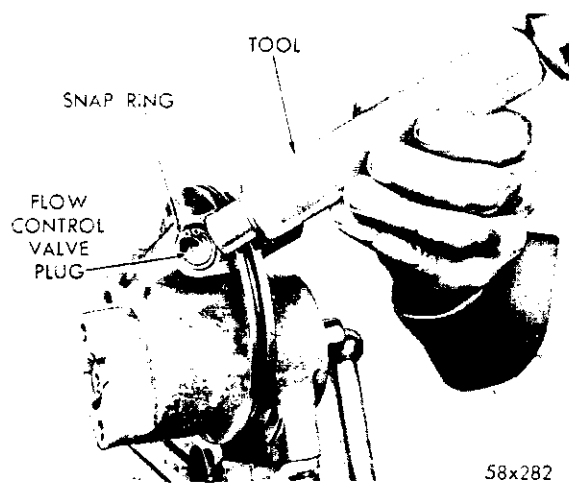

Fig. 61—Installing the Flow Control Valve Plug
(2) Drive a new plug into the base with Tool C-3233 only far enough to place the snap ring in the bore (Fig. 61) then drive the snap ring and plug with Tool C-3233 until the snap ring seats in its groove in the housing bore.